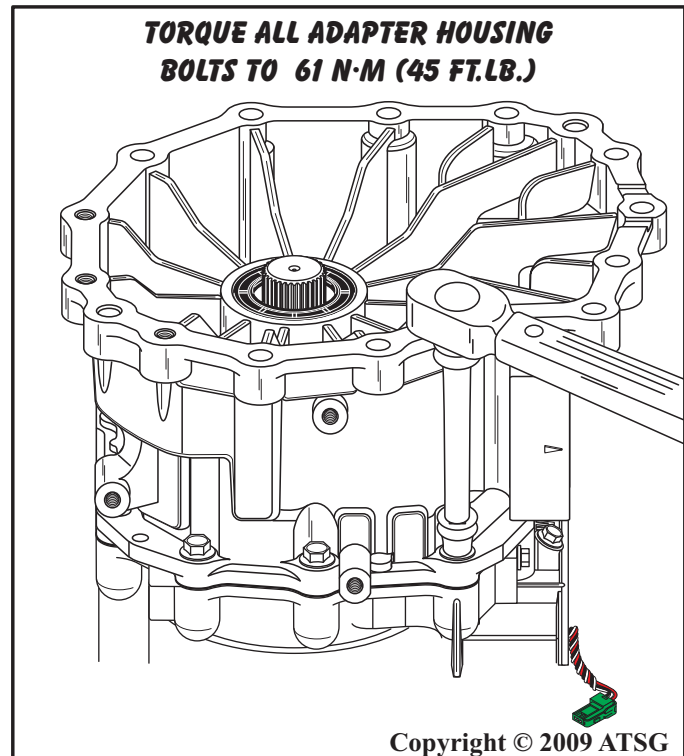

Figure 214
51. Torque all extension or adapter housing bolts to 61 N·m (45 ft.lb.), as shown in Figure 214.